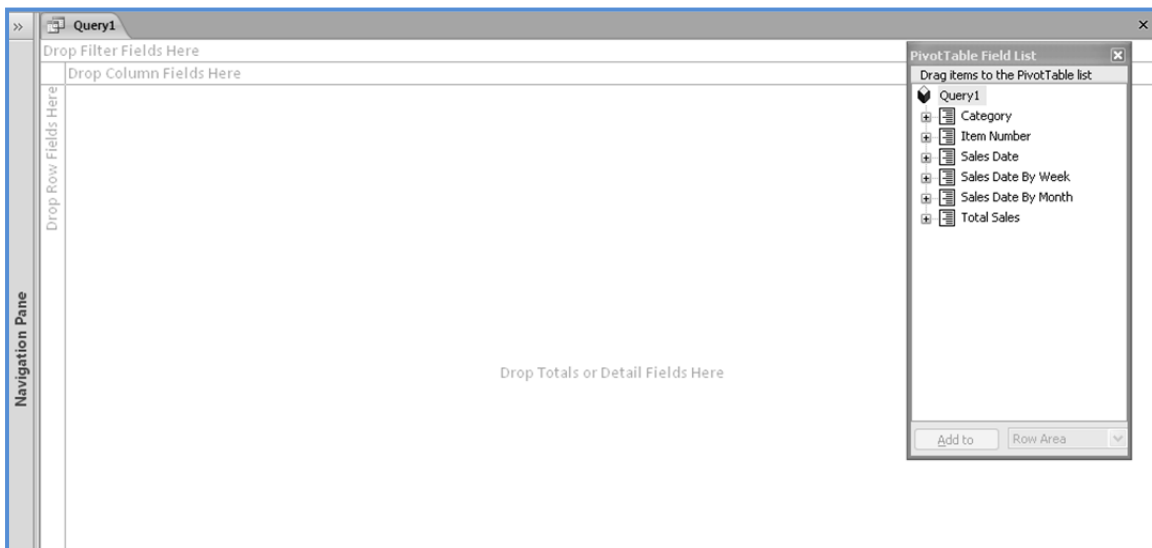

Fig. 1.2.57: PivotTable View
2. The PivotTable view appears with the field list on right side as displayed in Fig. 1.2.57.